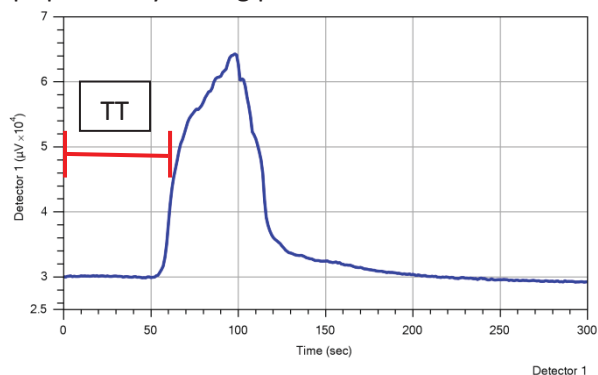

Figure 5.6: 5ppm Benzene on PID
Response testing also enables the operator to measure the chemical trip time which needs to be entered into the MIP software to accurately plot the contaminants depth position. The trip time is the time it takes for the contaminant to travel through the trunkline from the membrane to the detectors. The contaminant trip time is influenced primarily by trunkline length and carrier gas flow rates as well as the contaminant makeup specifically boiling point. The chemical response trip time can be determined from the results on the Pre-Log Response Test. Using Fig. 5.6 the Benzene trip time (TT) would be approximately 55 seconds. This response test would need to have been started right when the chemical used in the response test was exposed to the membrane. Additional typical response test graphs are located in Appendix I.